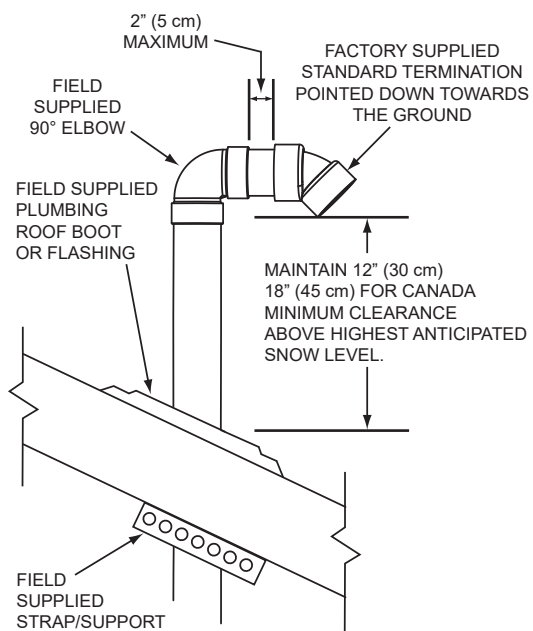
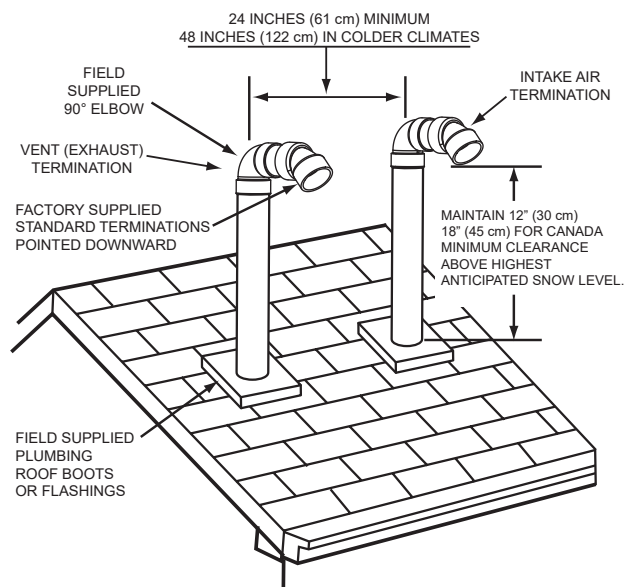
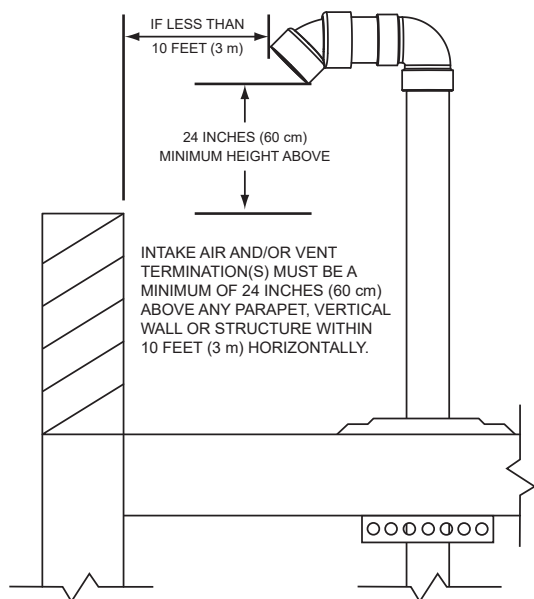

Figure 25. Vertical Termination(s) Installation: Intake Air and/or Vent (Exhaust)
Figure 27. Vertical Termination - Direct Vent: Standard Terminations
Figure 26. Vertical Termination Flat Roof Clearance - Intake Air and/or Vent (Exhaust)
2. If installing only the vent (exhaust) piping in a Power Vent configuration vertically through the roof; ensure that all exterior vertical clearance requirements shown in **Figure 25** (page 37) and **Figure 26** (page 37) are being maintained. These clearances and those cited by local and national codes must be maintained.
**Note:** On flat roof installations the vent termination must be a minimum of 24 inches (60 cm) above any parapet, vertical wall or structure within 10 feet (3 m) horizontally. See **Figure 26**.
3. If installing both intake air and vent piping in a Direct Vent configuration vertically through the roof; ensure that all exterior vertical clearance requirements shown in **Figure 25** (page 37) and **Figure 26** (page 37) are being maintained. These clearances and those cited by local and national codes must be maintained.
**Note:** On flat roof installations the intake air and the vent terminations must be a minimum of 24 inches (60 cm) above any parapet, vertical wall or structure within 10 feet (3 m) horizontally. See **Figure 26** (page 37).
- The vent termination must be oriented facing downward as shown in **Figure 25** and **Figure 26** (page 37).
- The bottom edge of vent termination must be a minimum of 12 inches (30 cm), 18 inches (45 cm) in Canada, above average or expected snow level as shown in **Figure 25** (page 37).
- The intake air and vent pipes must penetrate the same side of the roof as shown in **Figure 27** (page 37).
- The intake air and vent terminations must be oriented facing downward and in the same direction as shown in **Figure 27** (page 37).
- The intake air and vent terminations must have a minimum separation of 24" (61 cm) measured on center line as shown in **Figure 27** (page 37). In colder climates this separation should be increased to at least 48 inches (122 cm).
- The bottom edge of the intake air and vent terminations must be a minimum of 12 inches (30 cm), 18 inches (45 cm) in Canada, above the average or expected snow level as shown in **Figure 25** and **Figure 27** (page 37).
- The distance between the closest vent and intake air terminations must be a minimum of 24 inches (61 cm) as shown in **Figure 27** (page 37). In colder climates this separation should be increased to at least 48 inches (122 cm).
8. Suspend the pipe(s) through center of hole using field-supplied metal strapping or equivalent support materials as shown in **Figure 25** (page 37).
9. Slide a roof boot or equivalent flashing over the pipe and secure roof boot or equivalent flashing to roof and seal around the flashing as shown in **Figure 25**, **Figure 26** (page 37), and **Figure 27** (page 37).
10. Install the factory-supplied intake air and/or vent termination(s) using field-supplied pipe and one field-supplied 90° elbow as shown in **Figure 25** (page 37) The short section of pipe that connects between the field-supplied 90° elbow and the factory-supplied termination must not be excessive in length. The exposed portion of this pipe shall be no more than 2 inches (5 cm).